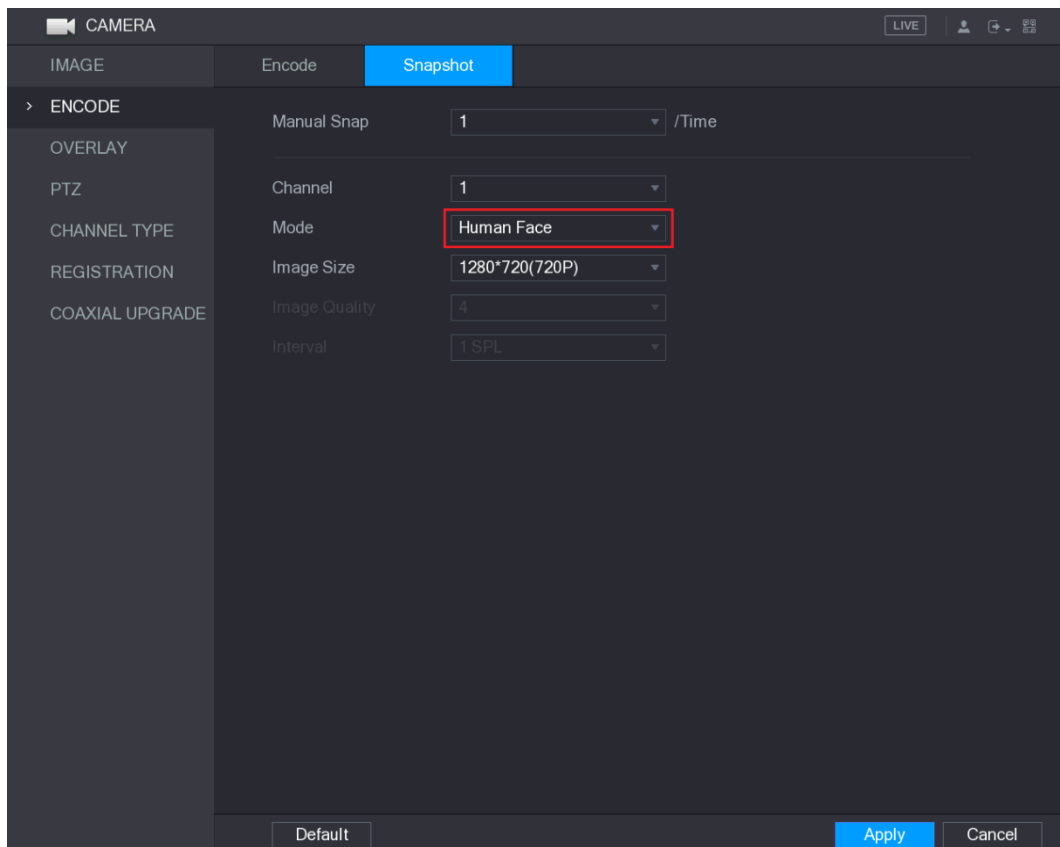

Figure 5-100
Step 2 In the **Mode** list, select **Human Face**, and then configure other parameters. See Figure 5-100.